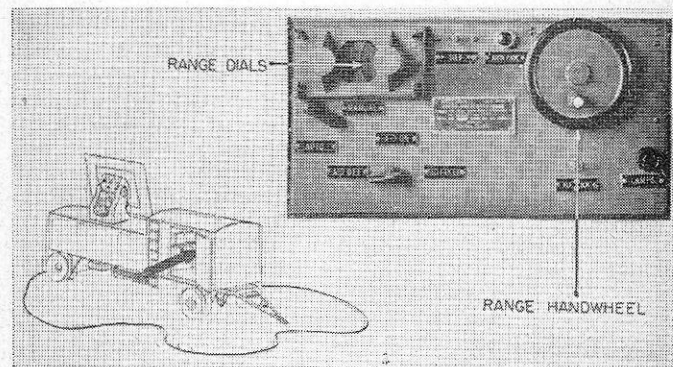

FIGURE 12.—Range control unit panel.
b. Figure 12 shows the front panel of the RANGE CONTROL UNIT. A brief description of the dials and controls is as follows: